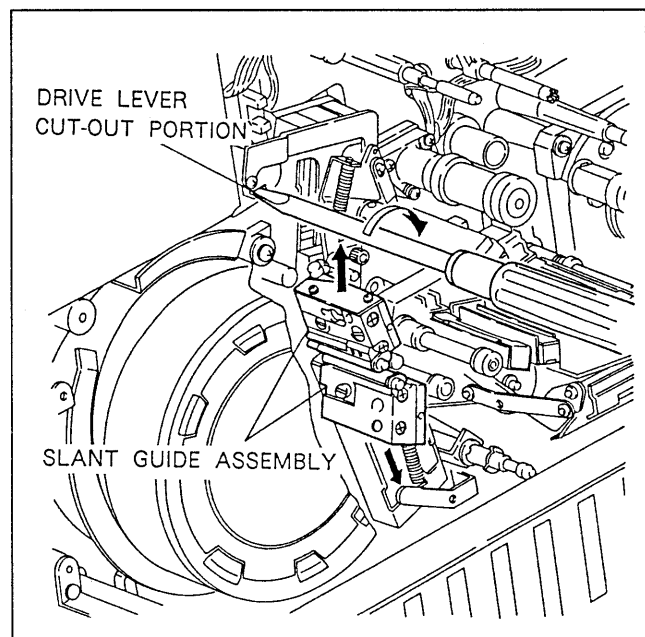

Fig. 6-5-1. Movement of Entrance/Exit Slant Guides
1. When the slant guide is closed, as shown in Fig. 6-5-1, open the slant guide by inserting the tip of flat blade screwdriver into the drive lever cut-out portion and then rotate the screwdriver.